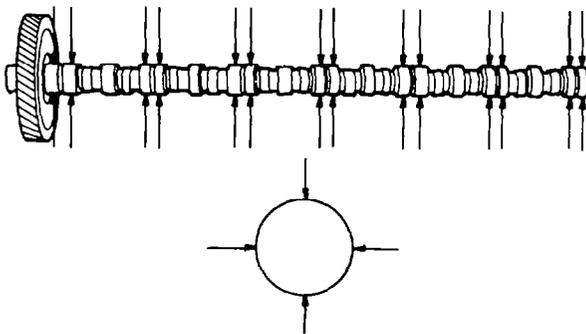

Figure 34 — Camshaft Journal Diameter
- ba. Check the face of the crankshaft and ensure the vibration damper mounting flange is flat or concave (see Fig. 34). It may be possible to correct a convex condition by grinding, providing the crankshaft length remains 1298.73-1300.00 mm (51.131 51.181 in.).